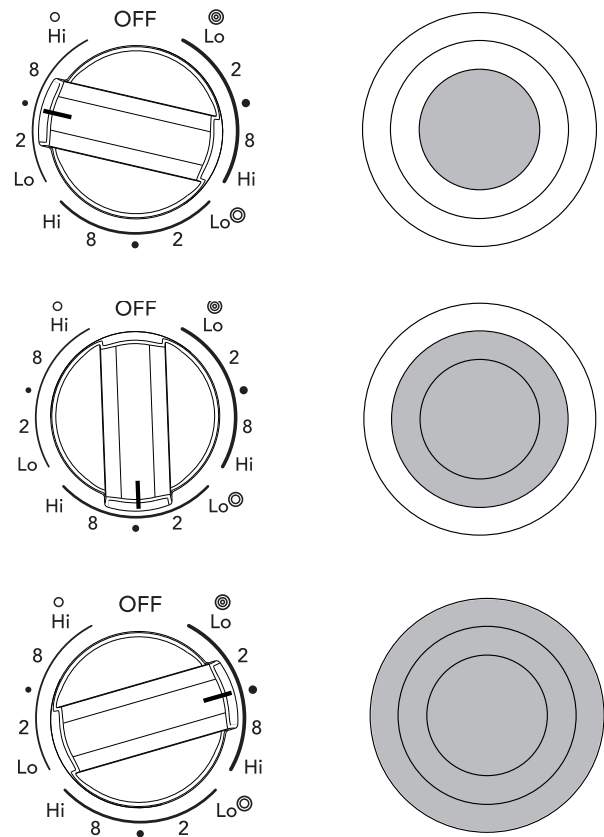

Figure 8: Triple element knob settings
Symbols around the knob are used to indicate which element of the triple radiant element will heat. The ○ symbol indicates that only the inner element will heat. The ◎ symbol indicates that the inner and middle elements will heat. The ⊕ symbol indicates that the inner, middle and outer elements will heat (Figure 8). You may switch the element setting at any time during cooking.
2. Push in and turn the control knob to the inner element symbol for smaller cookware or to the inner and middle element symbol for average cookware or to the inner, middle, and outer element symbol for large cookware (Figure 8). Turn the knob to adjust the setting if needed.